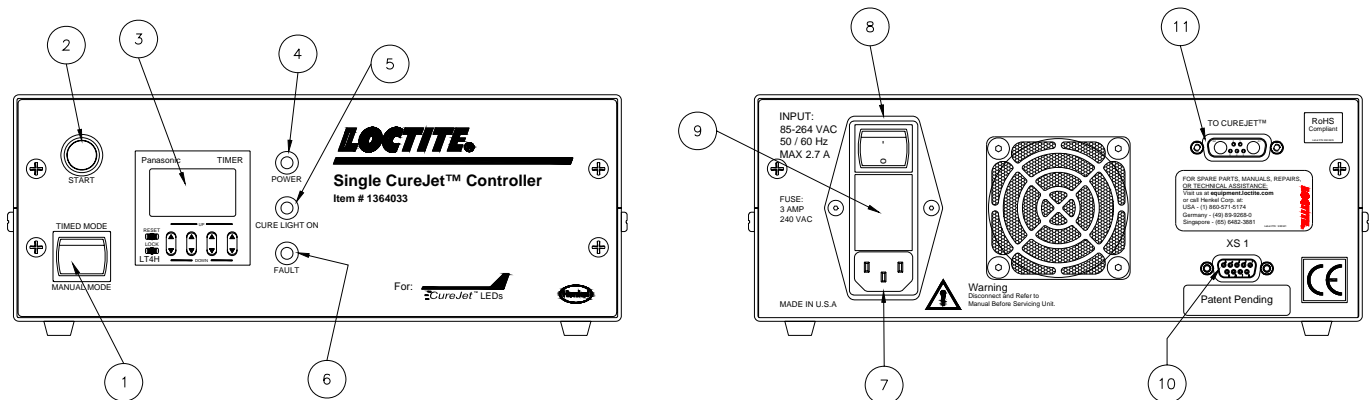
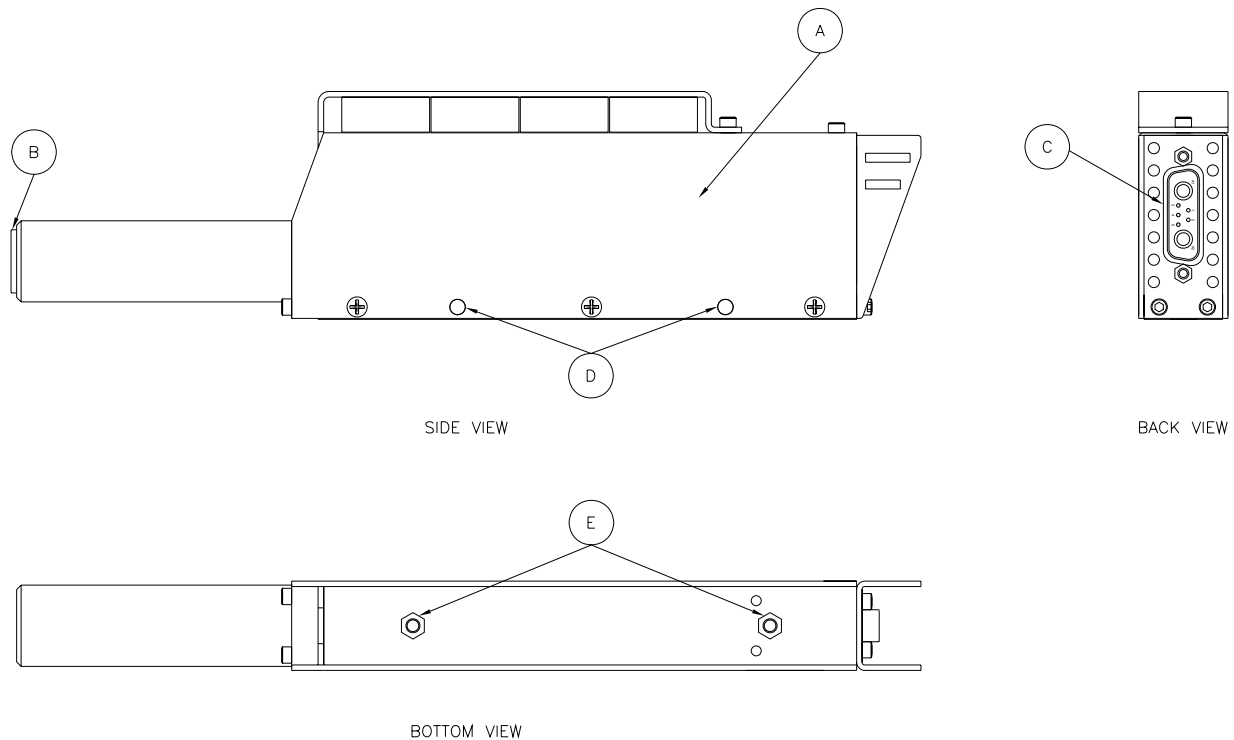
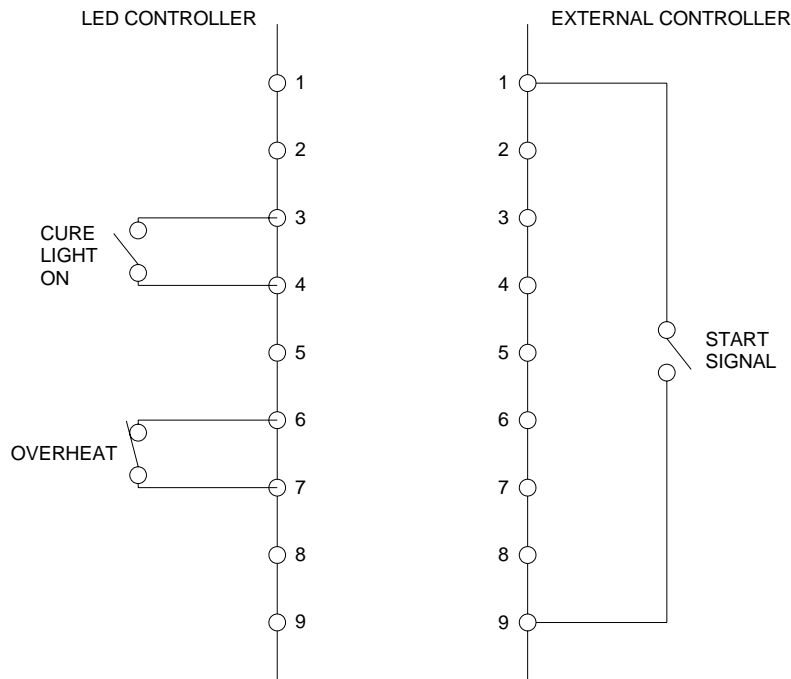

Figure 1
Figure 2
Figure 3. XS 1 Wiring Diagram
2.2 Operating Elements and Connections, refers to Figure 1
4.1 Installation, refers to Figures 1 and 2
- A. Holes (D) on the sides of the CureJet™ are properly sized for M4 screws. If you wish to mount the CureJet™ to the side of the LED Controller, kit is included.
- B. Tapped inserts (E) on the bottom of the CureJet™ are for M4 screws. Do not thread screws deeper than .25 inches (6.35mm).
3. Using either Loctite® Cables P/N 1370351 or 1370352, connect the CureJet™ to the LED Controller (Figure 2 Item C to Figure 1 Item 11).
4. If it will be used, plug in Foot Switch to LED Controller (Figure 1 Item 10).
5. Plug in AC Line Cord to LED Controller (Figure 1 Item 7).
1. Turn on the On/Off Switch on the back of the LED Controller unit (Figure 1 “8”).
3. If Timed Mode is desired, set Mode Switch (Figure 1 “1”) to Timed Mode and program the control timer (Figure 1 “3”) to the desired exposure time.
4. Depress Start Button (Figure 1 “2”) or Foot Switch to activate light.
The LED Controller can communicate with an external controller (such as a PLC) via the XS 1 port (Figure 1 “10”). This port offers 2-way communication for actuation of the CureJet™ and relaying of pertinent information back to the PLC. There are 3 signals on the port: Start (NO), Overheat (NC), and Cure Light On (NO). See Figure 3 for wiring schematic.